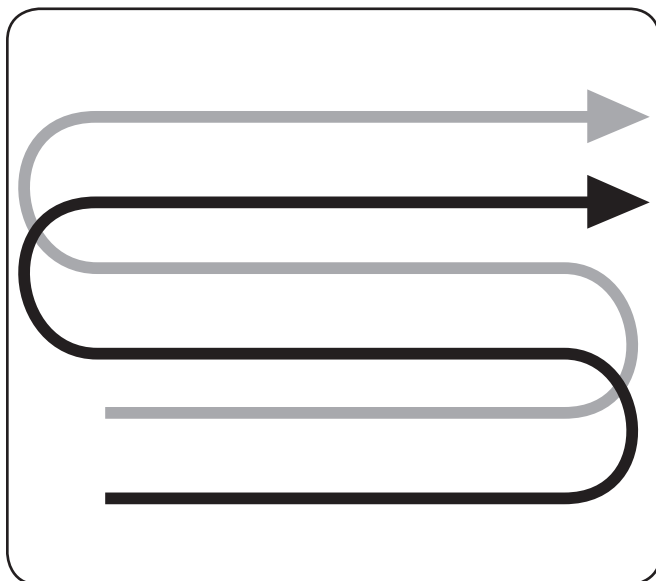

Figure 5-11
- When preparing a seedbed, go over the same path twice in the first row, then overlap one-half the tiller width on the rest of the passes. See Figure 5-11.